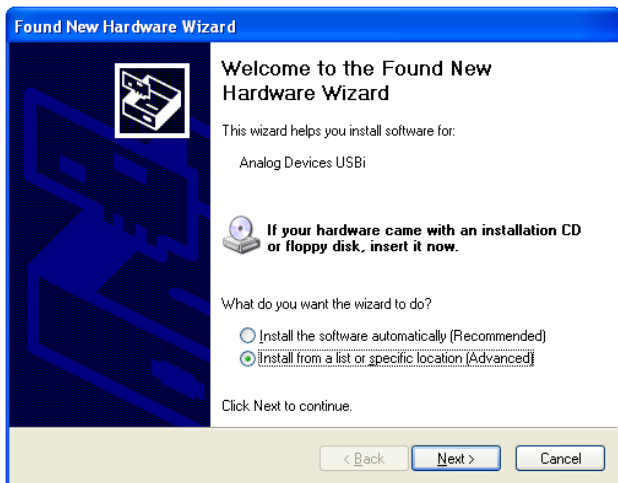

Figure 7. Found New Hardware Wizard—Installation
2. Select the **Install from a list or specific location (Advanced)** option and click **Next** (see Figure 7).